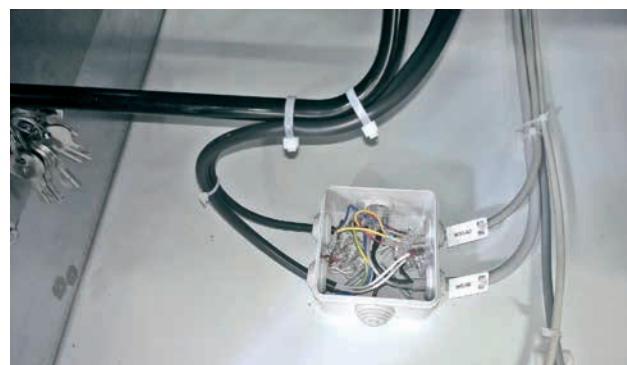

Figure 36
- The electric motor connection shall be carried out in accordance with the electric design specifications and following the electric motor manufacturer's instructions. The instruction is to be found either inside the connection box for the motor, located at the bottom of the fan unit section (Figure 36) or attached on the motors's casing.